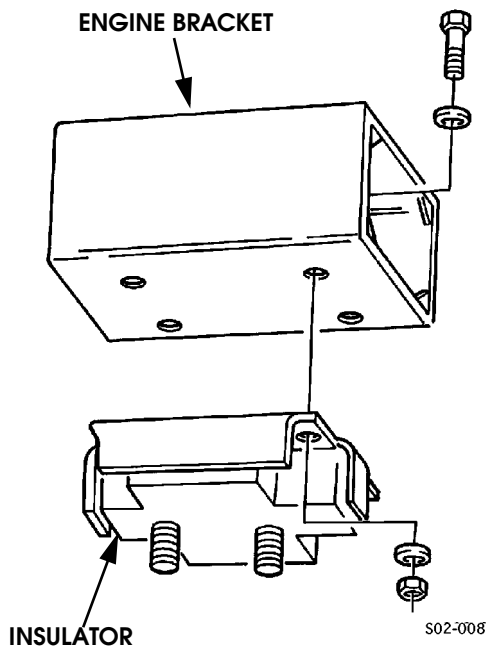

Figure 2-15: Engine Bracket and Insulator Assembly
1. Position insulator on engine bracket (Figure 2-15).